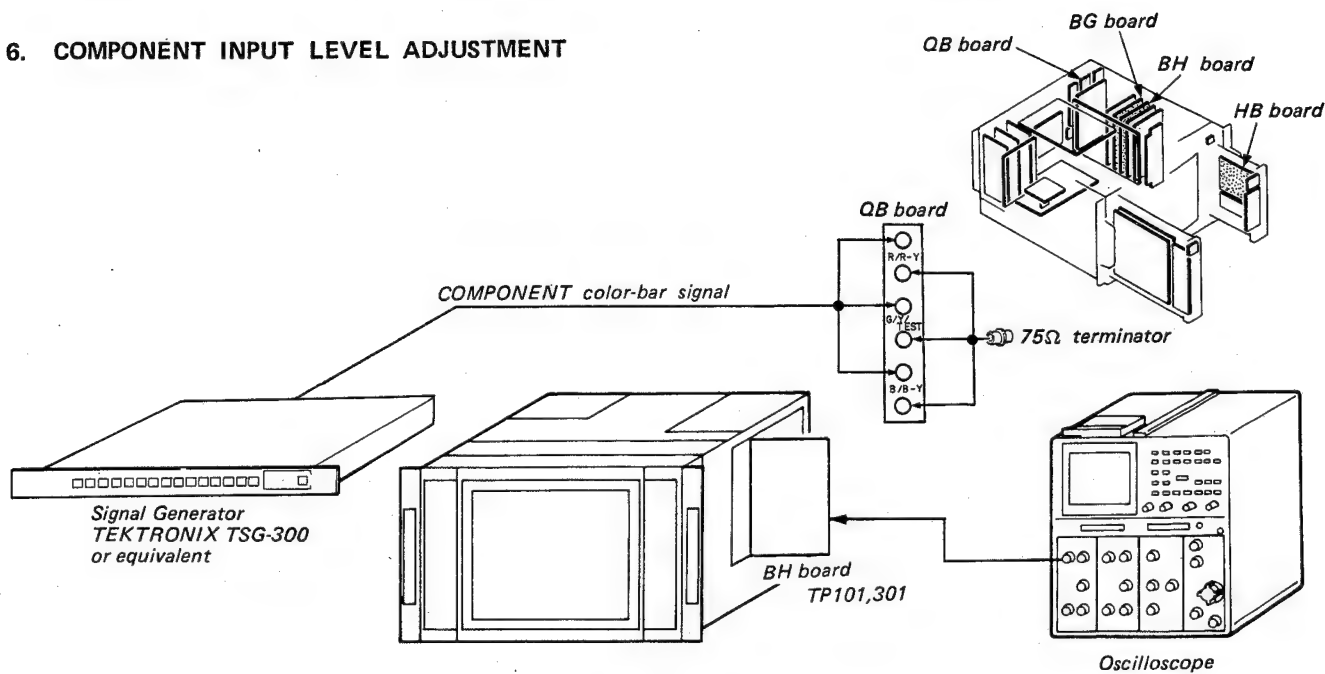
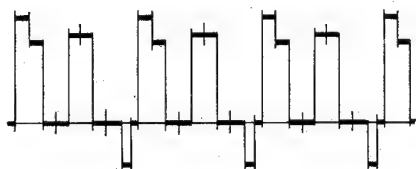

Fig. 6-1
Fig. 6-2
- Complete the connections as shown in Fig. 6-1.
- INPUT selector . . . . . B (FRONT PANEL (R))
- Adjust RV21 of BG board so that the output waveform becomes flat. (Fig. 6-2)